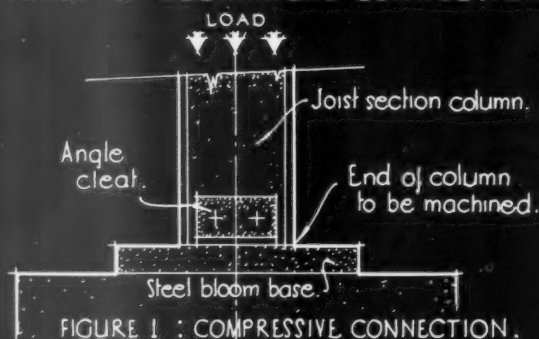

FIGURE 1 : COMPRESSIVE CONNECTION.
(1) Compressive connection (Fig. 1). The load is carried directly from one member to another and the connection serves mainly for the purpose of fixing the different parts of the steel structure together.